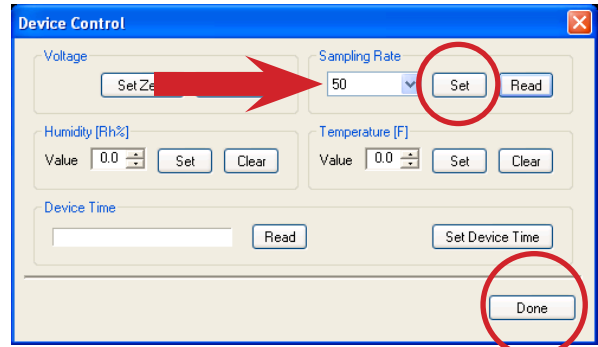

Figure 20: Use Edit Menu to Access Device Control Window to Set Sampling Rate per Second
2. Select Device Control and a Device Control window (Figure 20) appears on the screen.